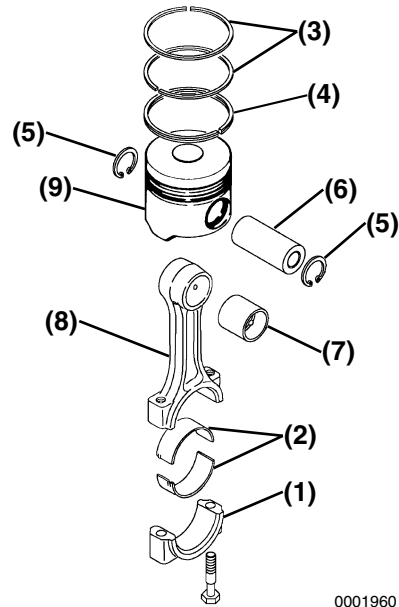

Figure 6-100
- Remove the bearing inserts **(Figure 6-100, (2))**.
- Remove the compression rings **(Figure 6-100, (3))** from the piston using a piston ring expander.
- Remove the oil ring **(Figure 6-100, (4))** from the piston using a piston ring expander.
- Remove the circlips **(Figure 6-100, (5))** from the wrist pin.
- Remove the wrist pin **(Figure 6-100, (6))** and connecting rod **(Figure 6-100, (8))** from the piston **(Figure 6-100, (9))**.